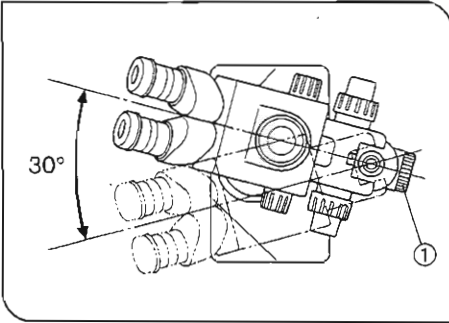

Fig. 1
1. To prevent the microscope body from turning over, its pivot angle must be limited to 30° as shown in Fig. 1.
3. To adjust the microscope body height, be sure to hold the focusing assembly with one hand while loosening the focusing assembly clamping knob ①. (Fig. 1)